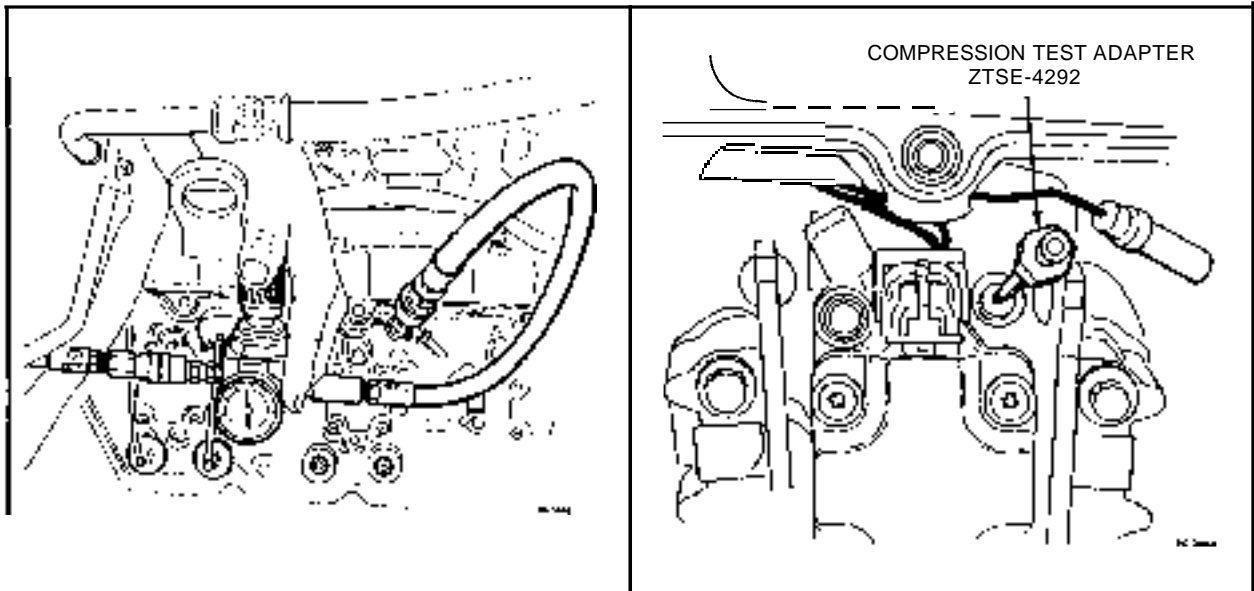

Figure 4.5. - Pressure Check for Combustion Leaks
- Install the compression adapter. (ZTSE 4292) (Figure 4.5.) in the glow plug bore and adapt gauge end to accept shop air pressure (100 to 160 PSI).
- With shop air applied (Figure 4.5.) observe surge tank for escaping air. If the nozzle sleeve is leaking, air will escape into the cooling system when shop air pressure is applied and be seen as bubbles in the surge/overflow tank.